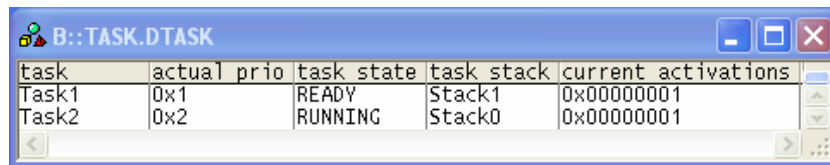

Figure 4.3: Information about the tasks in the system.
- Figure 4.3 shows, for each task, the task name, its current priority (it may be different from the nominal priority when the task lock a resource), the task state, the task stack, and the current pending activations.